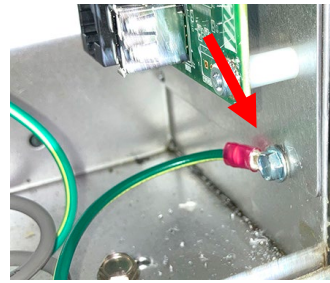

Figure 29
26. Connect the green ground wire, from the KCCM power harness to an existing screw in the lower right front corner of the FIB box below the KCCM board (see Figure 29).